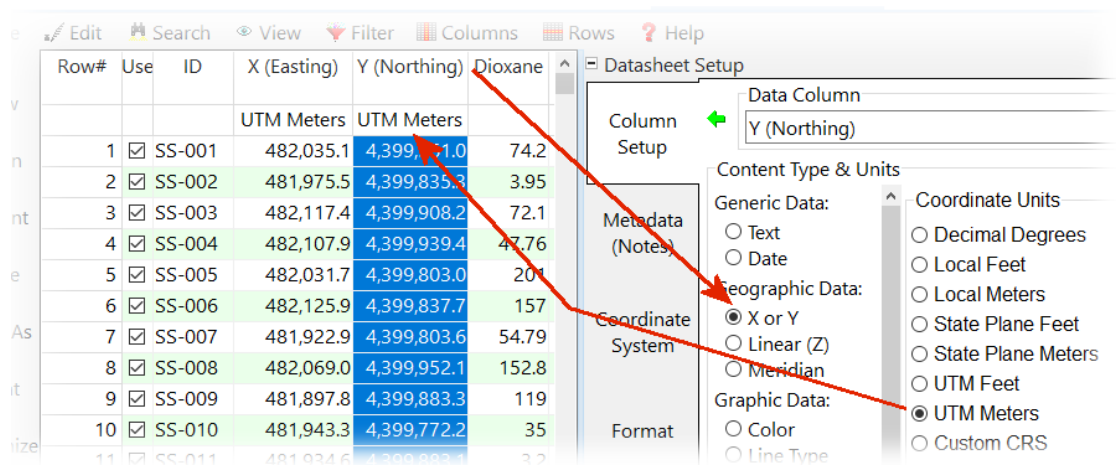

Figure 8
- Click on each of the coordinate columns and define what type of coordinates they represent (Figure 8).